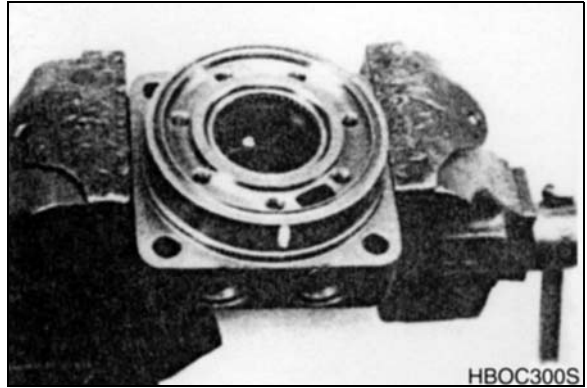

Figure 44
4. Place housing (18) assembly into a soft jawed vise with the coupling shaft bore down, clamping against the mounting flange. See Figure 44.